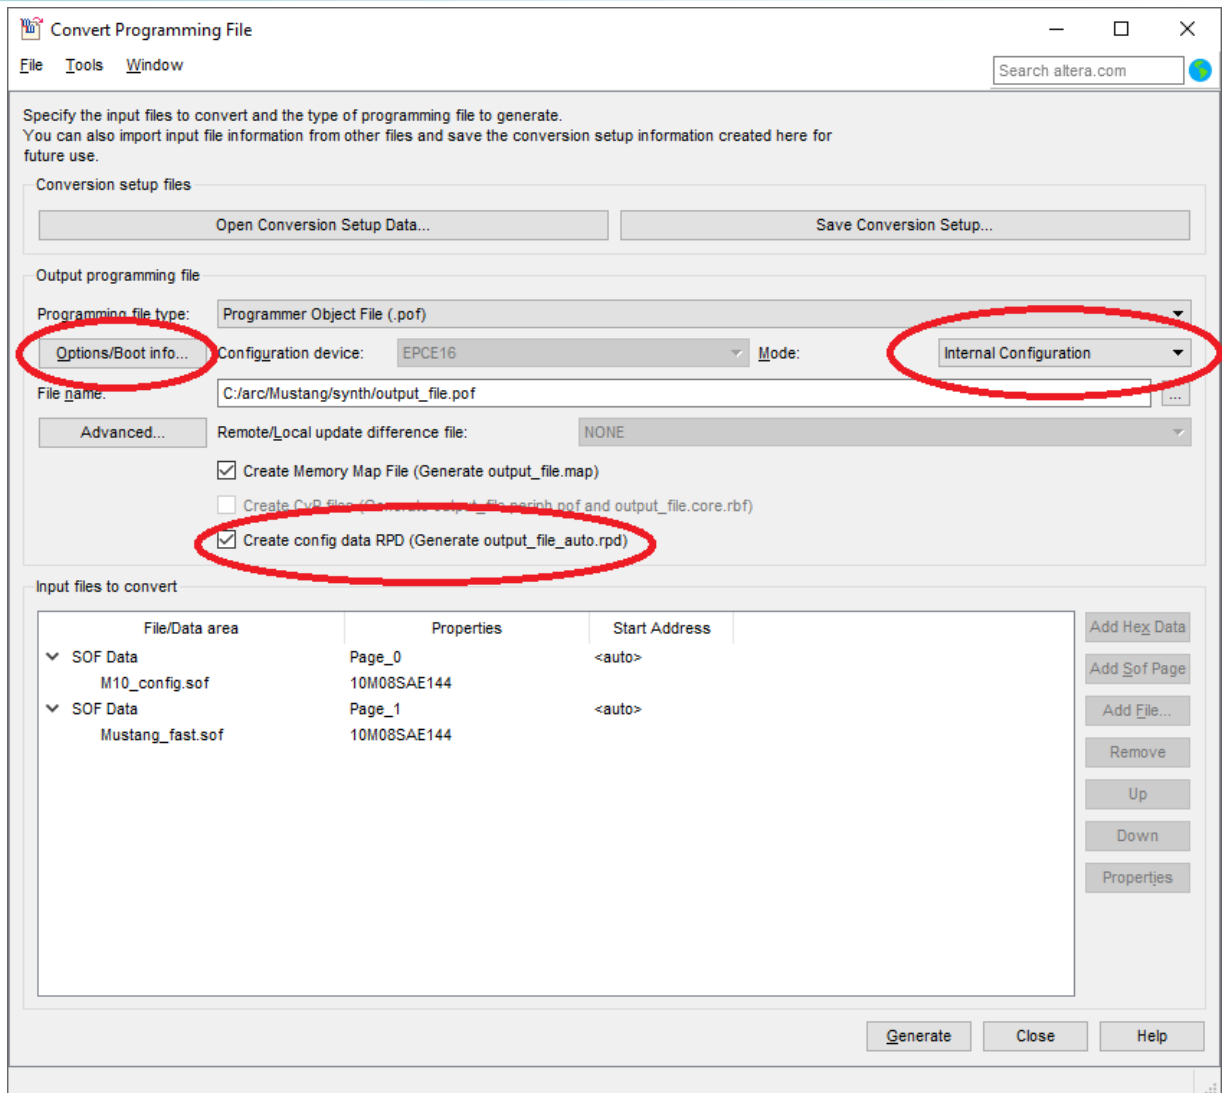
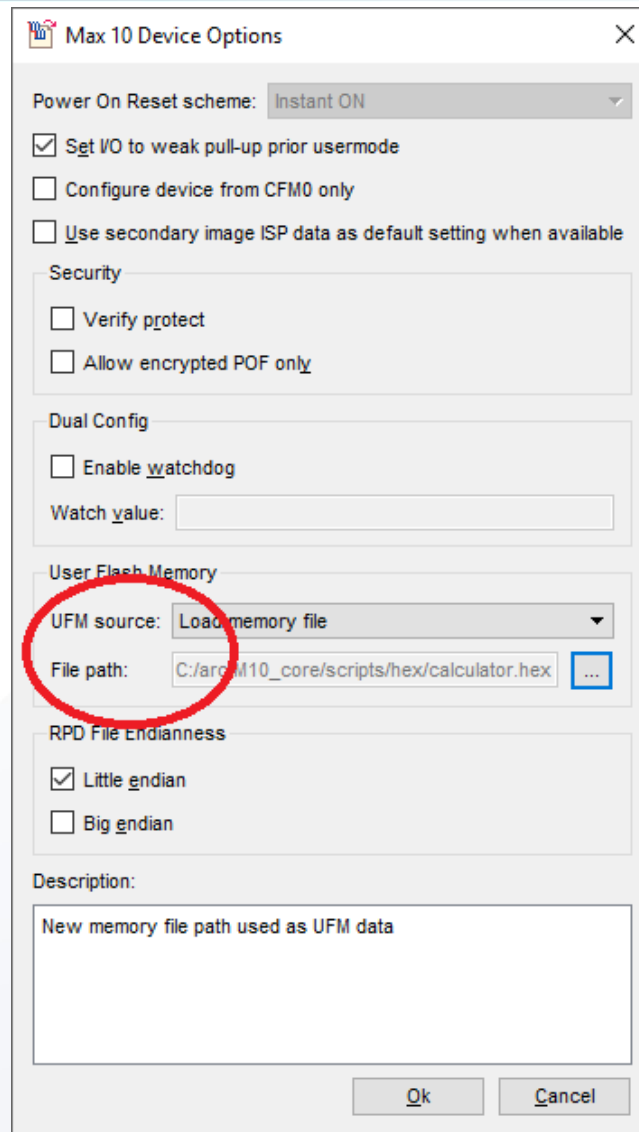

Figure 2-3 Convert Programming File
Figure 2-4 Add Intel Hex file to program the UFM
- d. At the bottom of the dialog is the "Input files to convert". Click "Add Files..." to add "**M10_high_speed_config.sof** " (provided with M10 High Speed Configuration) to Page_0. After that, click "Add Sof Page" to add "SOF Data, Page_1". Highlight the "Page_1", and click "Add Files..." again to add the pof file generated by the main image project. (It is the Mustang_fast.sof for the example below in Figure 2-3.
- e. If UFM also needs to be programmed in the same pof file, please click "Options/Boot info" on the left side in Figure 2-3. After that, in the "Max 10 Device Options" dialog, please set "UFM source" as "Load memory file", and point the "File path" to the correspondent Intel hex file, as demonstrated in Figure 2-4. Click "Ok" to close the "Max 10 Device Options" dialogue after everything is configured properly.
- f. Click the "Generate" button in Figure 2-3 to produce the single pof file needed for JTAG programming. If everything goes smooth, there will be two prd files generated in the same folder with pof file. The rpd file with the index 1 is for the main image. (Index 0 is for the boot image). And the rpd file of the main image can be used by M10 High Speed Configuration Utility for in-field upgrade.